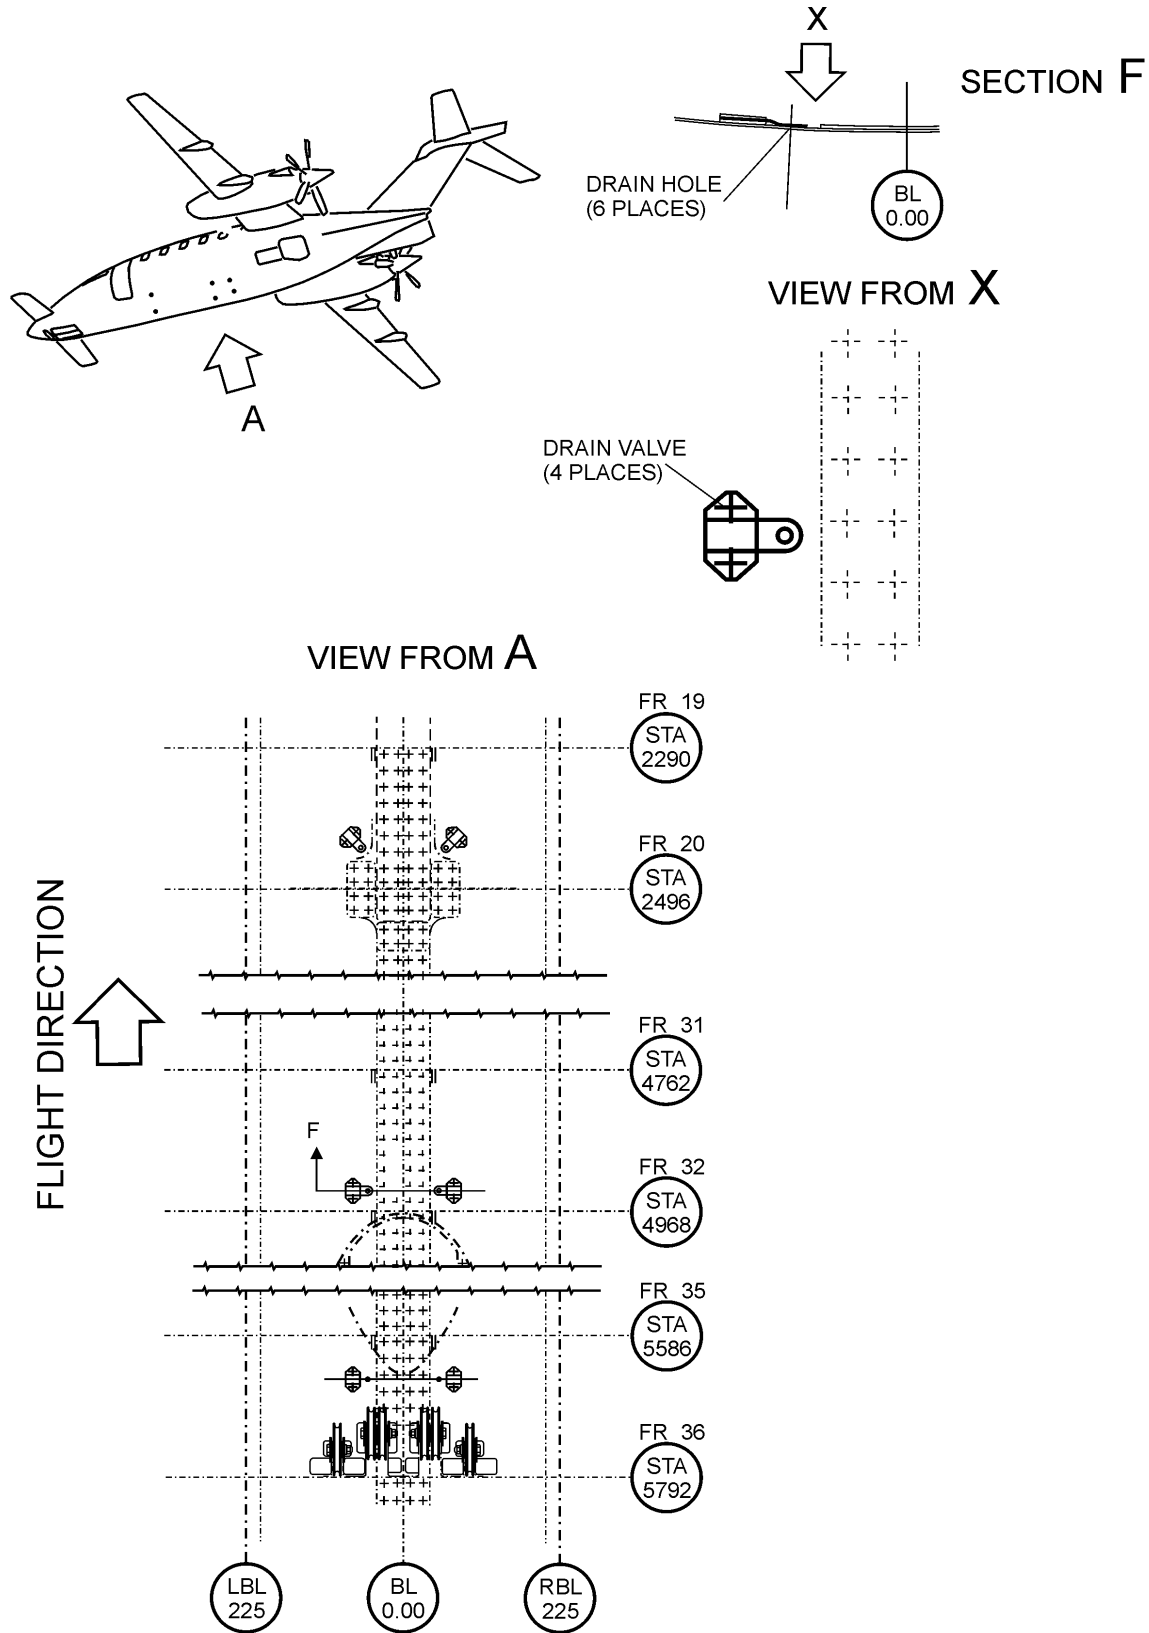

Fig. 201 - Fuselage Drain Holes - Check
3. Fuselage Drain Holes - Check (Ref. Fig. 201)
4. Fuselage Belly Drain(Ref. Fig. 201)